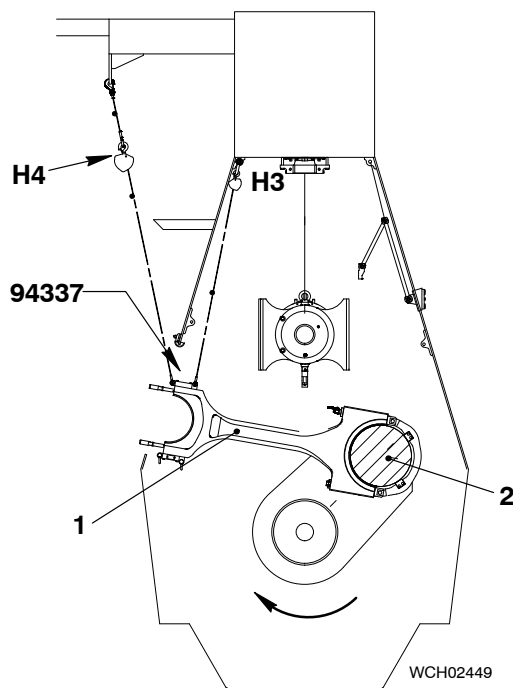

Fig. 11
- 17) Operate the turning gear and the chain block (H4, Fig. 11) to move the connecting rod (1) and crankshaft (2) clockwise into the position shown.